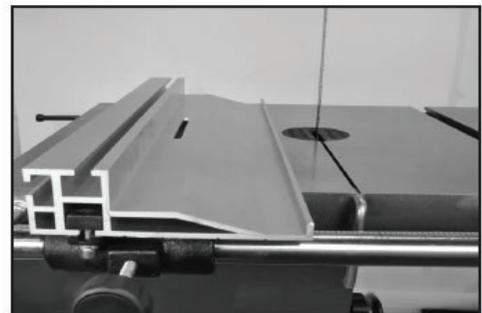

FIGURE 36
2. Turn the fence down to its horizontal position and slide it back onto the carrier. The bottom of the fence is slotted to mount on the sliding block. Fig. 36.